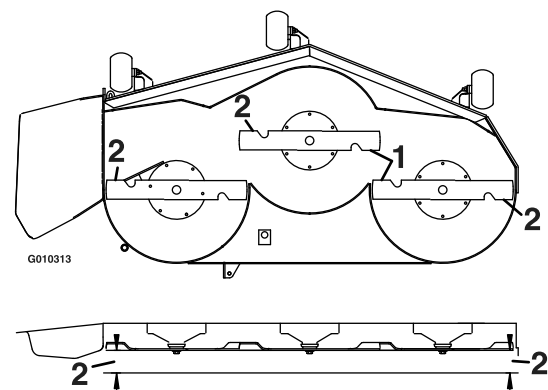
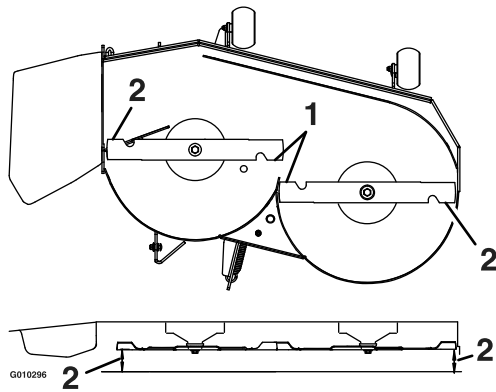

Figure 25
Figure 26
6. Measure between the outside cutting edges and the flat surface (Figure 25 and Figure 26). If both measurements are not within 3/16 inch (5 mm), an adjustment is required; continue with this procedure.
9. Carefully rotate the blades side to side (Figure 25 and Figure 26).